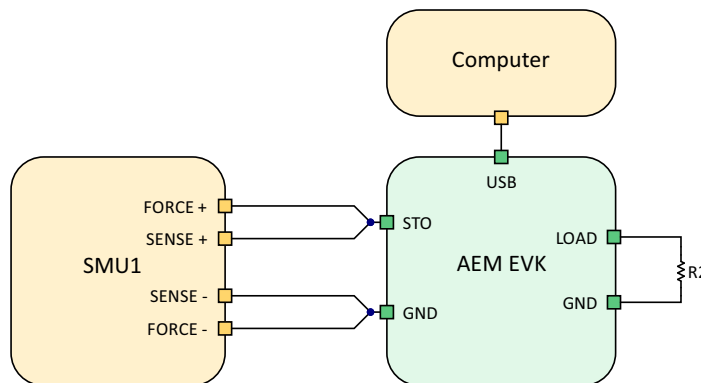

Figure 2: LOAD APM calibration base setup
Wire the equipment as shown in Figure 2. Please note that if the calibration of **LOAD**'s buck converter is done right after the calibration of the **SRCx** boost converter (described in Section 3), PSU1 can be left connected to **SRCx** to coldstart the AEM13920. Otherwise, the AEM13920 can be coldstarted from the 5V charger as described in Section 4.4.2.
Referring to Figure 2, configure SMU1 as follows:
- Use PSU1 from the SRCx calibration and set the voltage/current of PSU1 above the cold-start voltage/current defined in the datasheet. It is then mandatory to switch off/remove PSU1 for the calibration (PSU1 is not shown on Figure 2).